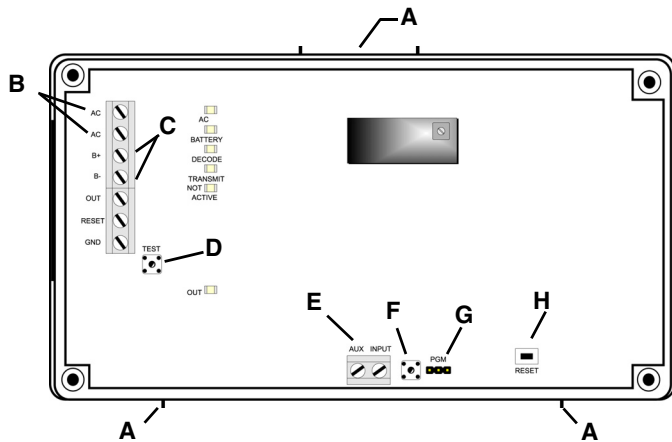

Figure 2 FA570 Components
1. Use a small screwdriver to press the housing release tab on the top or bottom of the high-power repeater (Fig. 2); separate the housing.
2. Connect power cabling (Fig. 2).